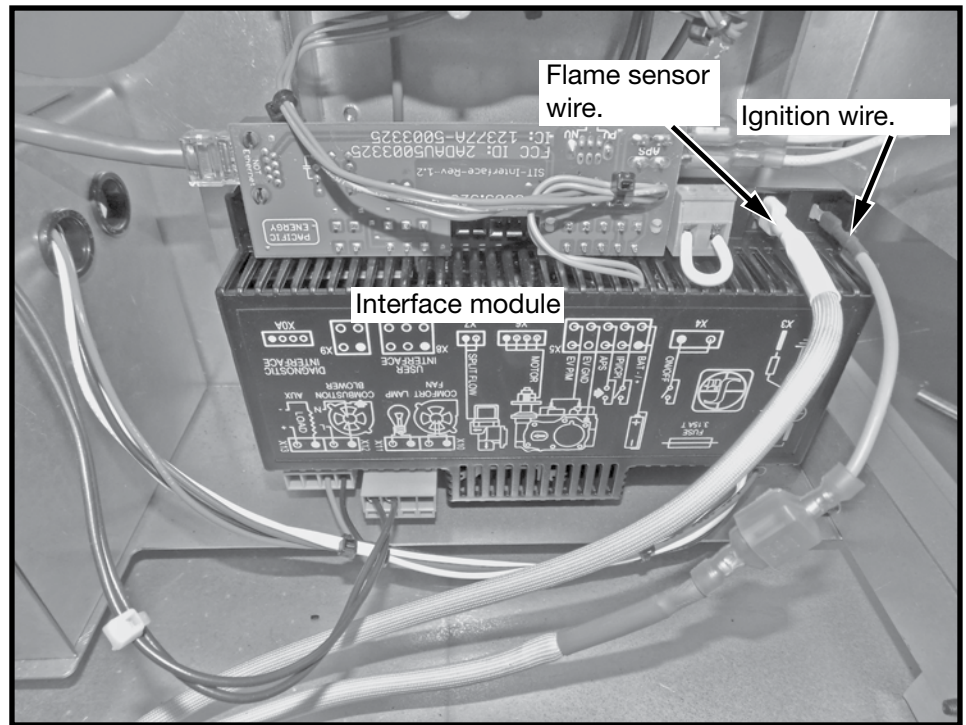

Figure 7: Interface module.
6. Attach the ignition and sensor wires to the module (Figure 7).